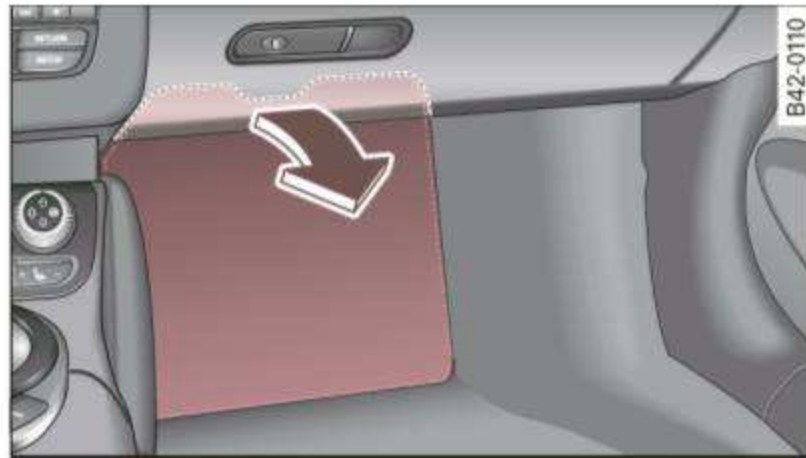

Fig. 137 Passenger's side wheel well: Foot rest with fuse arrangement
- Fold the foot rest back ⇒ fig. 137.